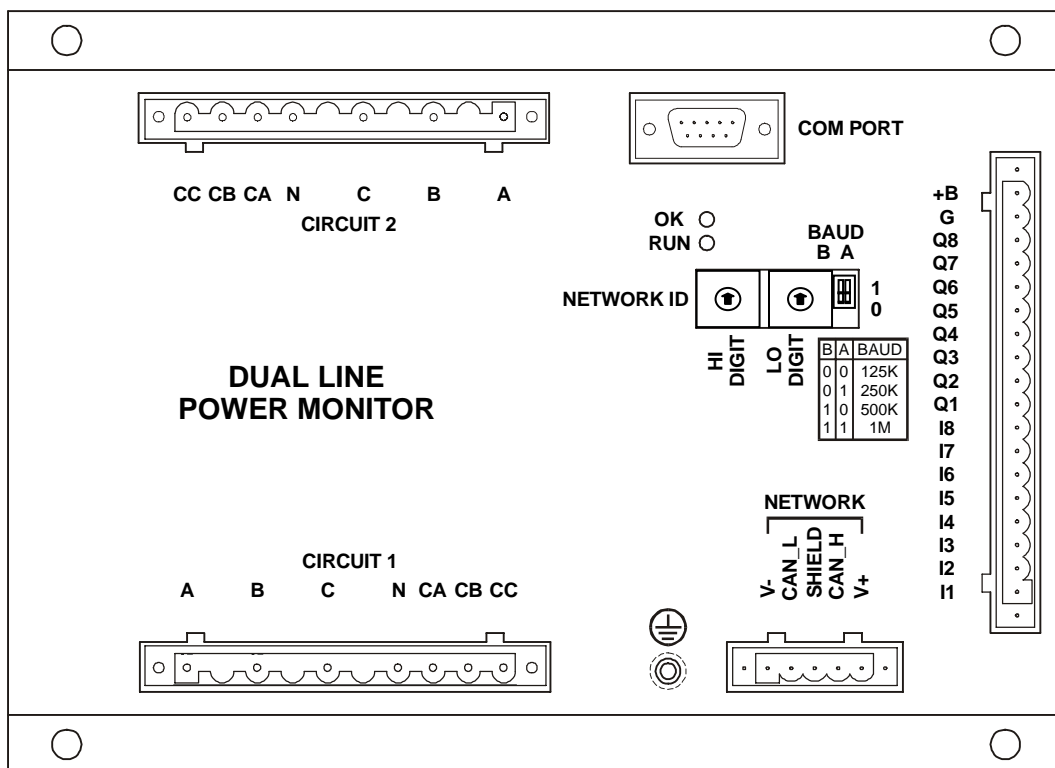

Figure 1.1 – ACM400 Dual AC Power Monitor
The AC inputs are divided into two circuits (Refer to Figure 1.1 for circuit connector location). Each circuit has three voltage signals (A, B, C), which accept input voltages from 0 – 600VAC with respect to neutral (N). These inputs can be directly connected or passed through external potential transformers (PTs). If voltages greater than 600VAC are to be measured, external PTs are required.